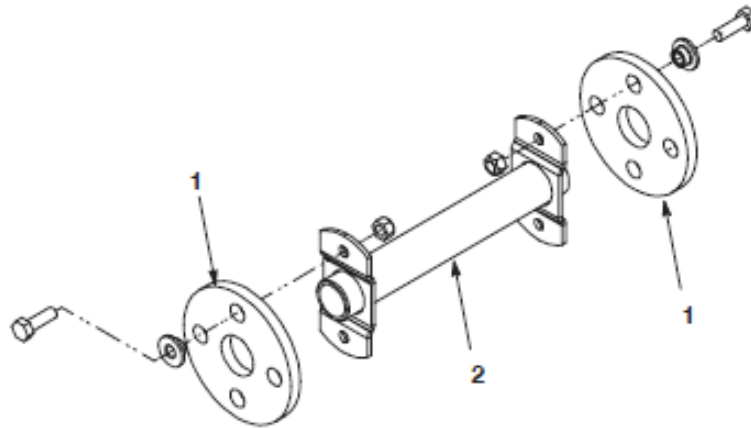

Figure 8
- A. Remove the capscrews, thin spacers and nuts securing the rubber couplers to the drive shaft (Fig. 8). Remove the couplers from the drive shaft.